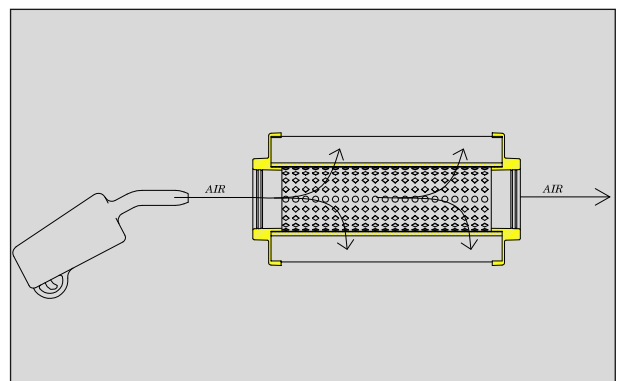

Fig. 2.7
- Clean the filter using pressurised air <2 bar (29 psi) only from inside keeping both the ends open. (Fig. 2.7)